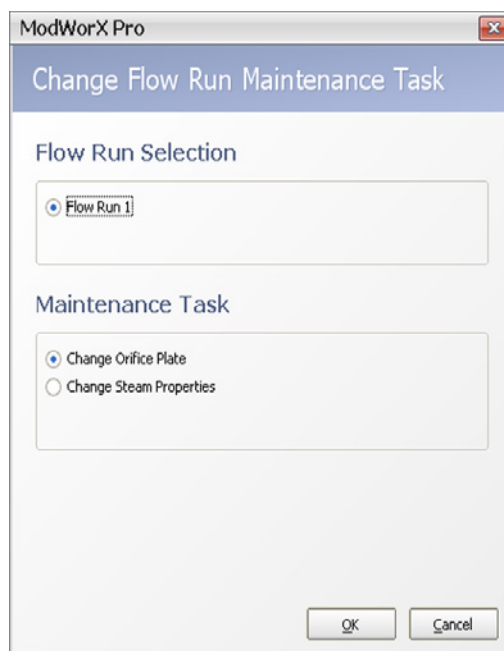

Figure 9.10
1. If Change Steam Properties is not displayed in the Maintenance Task field at the top of the Maintain Flow Run screen, click on **Change Task**. The Change Flow Run Maintenance Task dialog will appear (Figure 9.10, page 132).